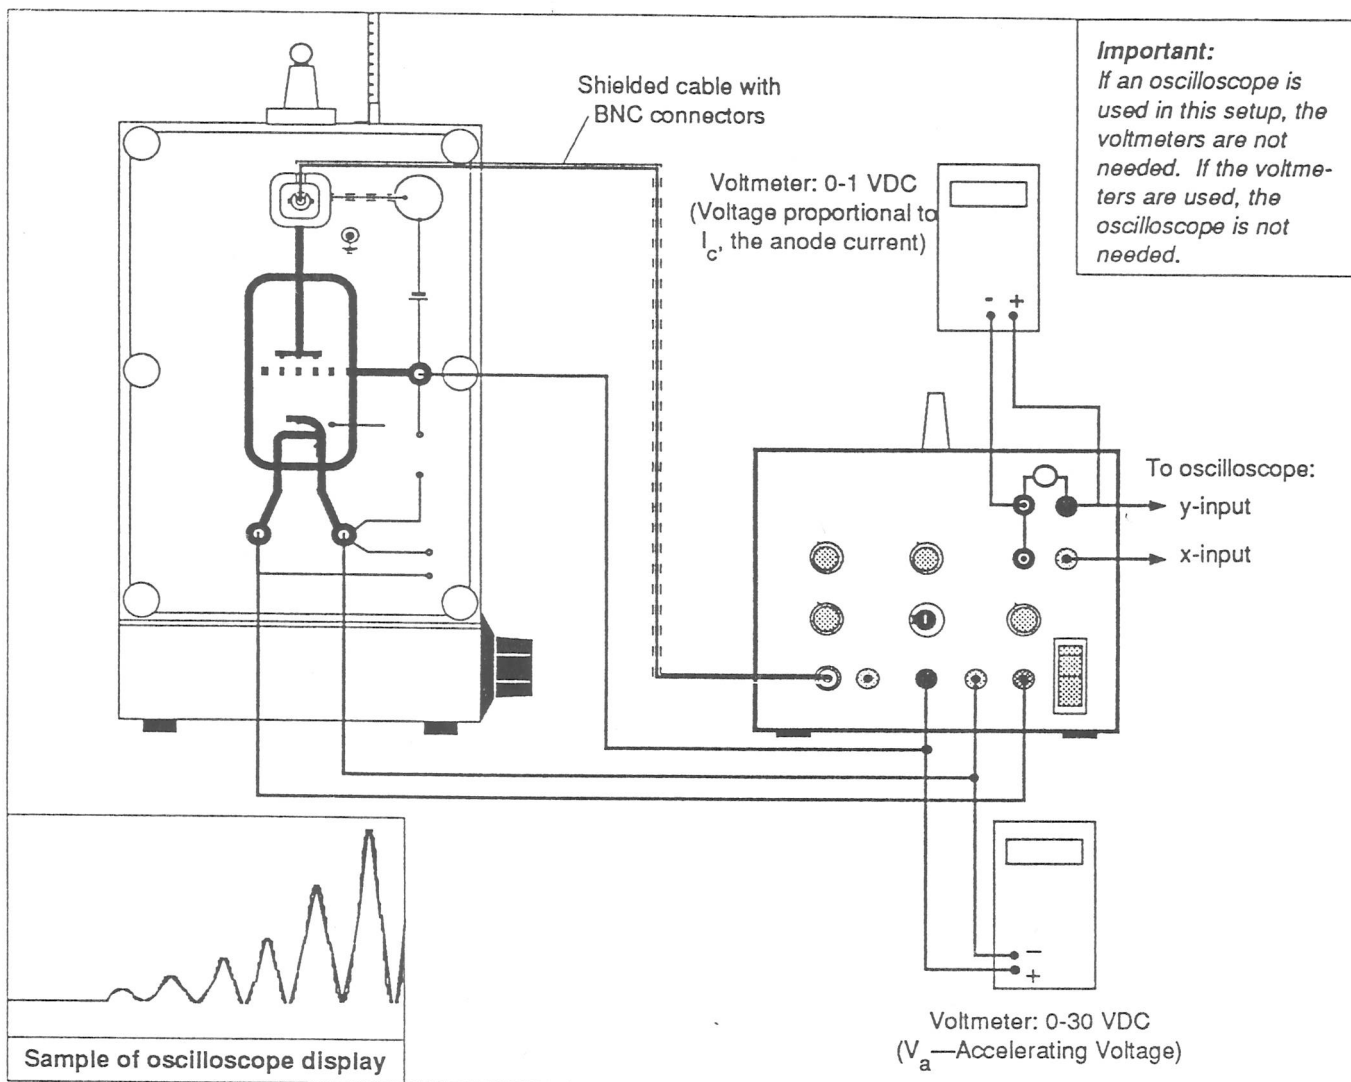

Figure 4 Franck-Hertz Experiment Using the Control Unit
- Remove the six thumbscrews that secure the front panel of the Franck-Hertz Oven. Replace the front panel with the Franck-Hertz Tube as shown in Figure 4.
- Connect the tube, control unit, and oscilloscope as shown in Figure 4. (The voltmeters that are shown in the figure are not needed when an oscilloscope is used.)
- Wait about 90 seconds for the cathode to warm up, then adjust the gain controls on the oscilloscope to get a trace as shown in Figure 4. (The x-channel gain should be approximately 0.5 volts/cm; the y-channel gain should be approximately 0.5 volts/cm.)
1. Remove the six thumbscrews that secure the front panel of the Franck-Hertz Oven. Replace the front panel with the Franck-Hertz Tube as shown in Figure 4.
4. Connect the tube, control unit, and voltmeters as shown in Figure 4 (the oscilloscope connections that are shown in the figure are not necessary when using voltmeters).